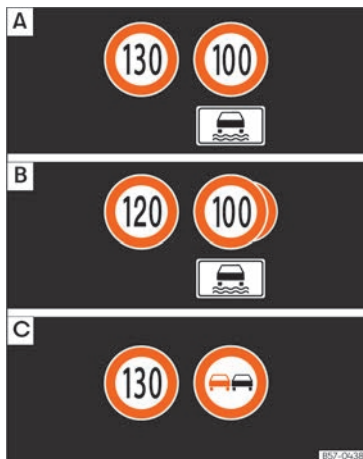

Fig. 11 On the instrument panel display: examples of speed limits or overtaking prohibitions with their respective additional signs.
The road signs detected by the system are displayed on the instrument cluster display >>> Fig. 11 and, depending on the navigation system fitted in the vehicle, in the infotainment system as well.
After checking and evaluating the information from the camera, the navigation system and the current vehicle data, the system displays up to three current road signs >>> Fig. 11  with their additional signs.
- **First:** The sign that is currently valid for the driver is shown in the left side of the screen For example, a maximum speed limit of 130 km/h (100 mph) >>> Fig. 11 .
- **Third:** Thirdly, a sign prohibiting overtaking is partially displayed. If there is no conditional speed limit and overtaking is prohibited, the latter sign will be displayed in second place >>> Fig. 11 .